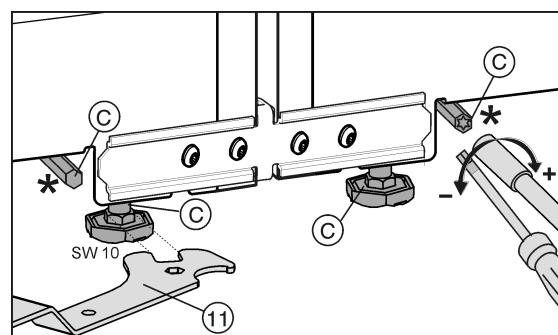

Fig. 26
The front adjustment feet can be adjusted with the supplied open-end wrench Fig. 26 (11) and the rear adjustment feet* with a 1/4" bit attachment.